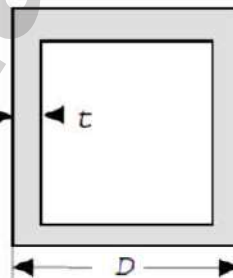

Fig. 4. Hollow cylinder
3. Consider a cylinder made with a plate thickness, $t = D/20$, but of a material such that the average value of s is still 0.5 shown in Figure 4. For $L = 40\text{cm}$ and $D = 4\text{cm}$, find the position of stable equilibrium and the immersion, h .